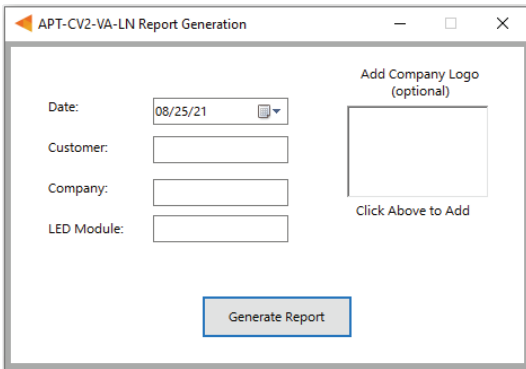

Figure 22: Report Generation window
- 1 Select **File > Generate Report**, or press **Ctrl+R**, to open the Report Generation Window (shown in Figure 22).